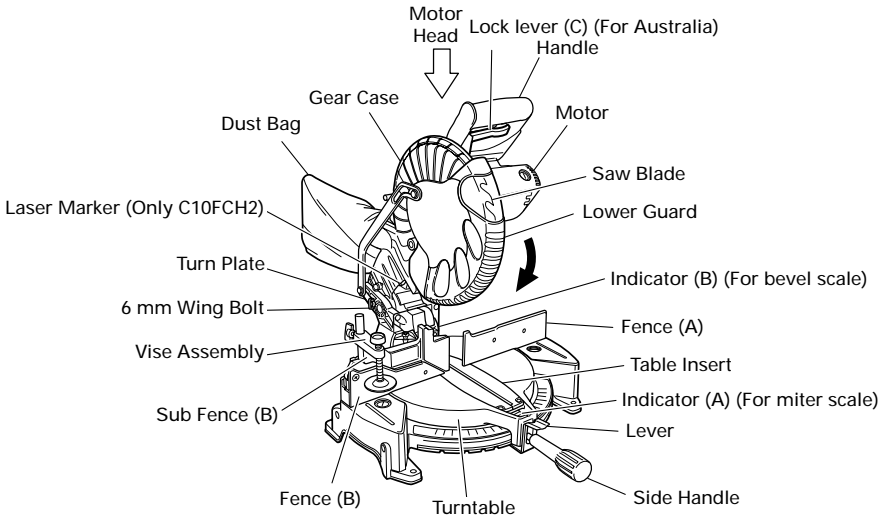

Fig. 2
- 5. Attach the dust bag to the main unit (Fig. 2)**